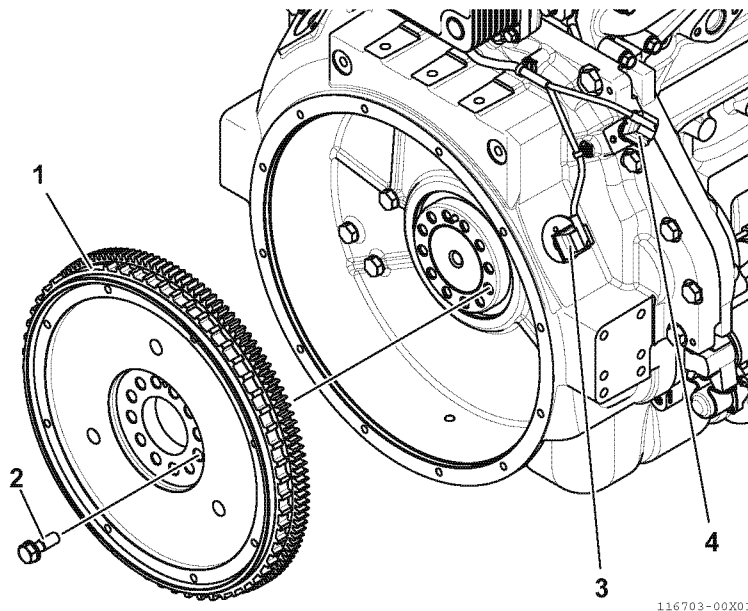

Fig.30-15
5. Install the flywheel (1, Fig.30-15) to the crankshaft, and tighten the mounting bolts (2, Fig.30-15) to the specified torque. Connect the wiring couplers of the removed crankshaft speed sensor (3, Fig.30-15) and camshaft speed sensor (4, Fig.30-15) to the flywheel housing.